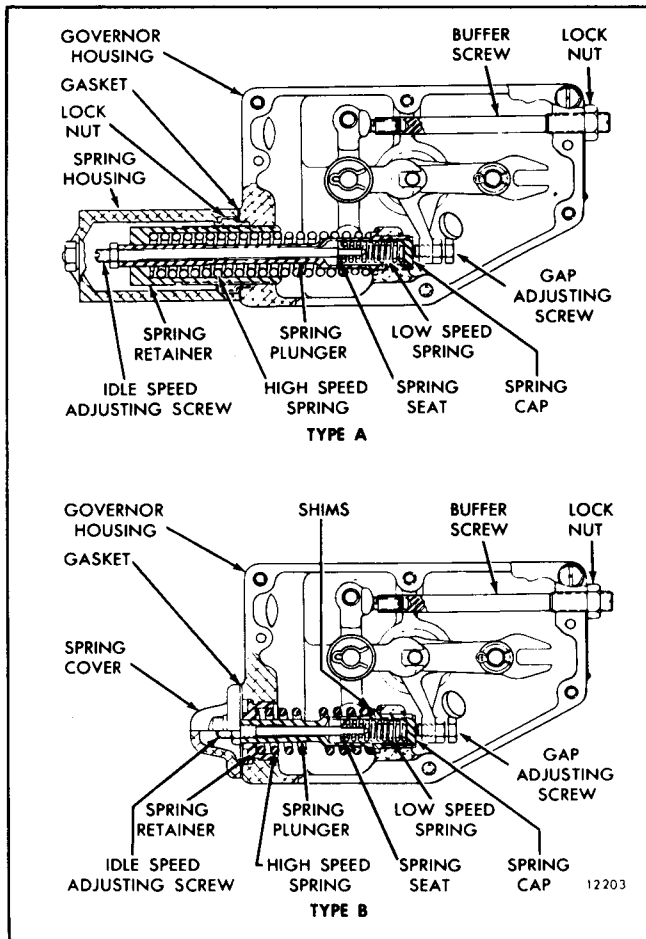

Fig. 6 - Governor Spring Assemblies
- On engines equipped with the type "B" governor (Fig. 6), remove the spring retainer with spanner wrench J 5895 and withdraw the spring assembly.
Refer to Fig. 6 and disassemble the governor spring assembly as follows: